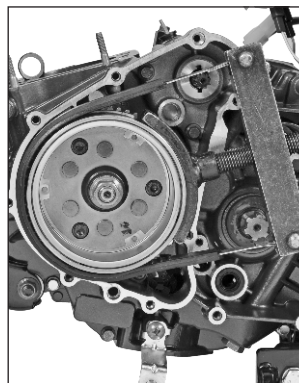

Fig. 3.126A
- Using the special tool, hold the rotor assembly and remove hexagonal nut (M16 LH). (Fig. 3.126A & B)